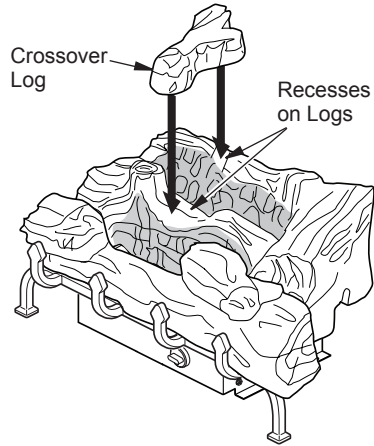

Figure 24 - Installing Crossover Log (#3)
3. Place crossover log onto recesses on main log and front log (see Figure 24).